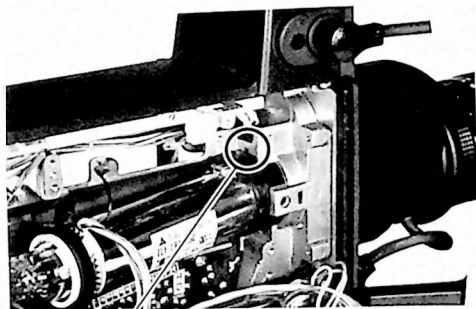

Fig. 3-8
2. Make sure that the protruding part of the deflection coil engages the recessed part of the chassis. (Fig. 3-8)